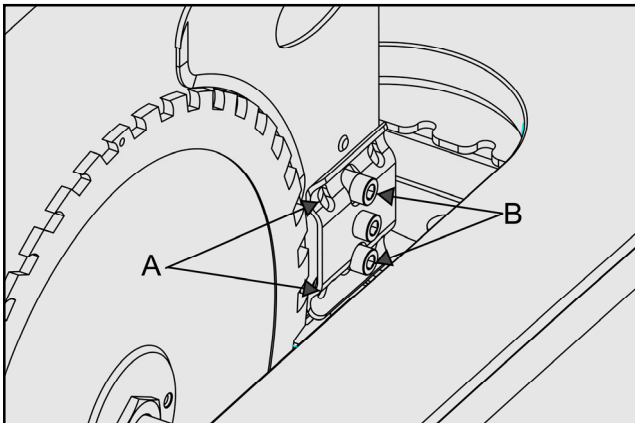

Fig. 26
during the cut, increasing the risk of kickback. Place a straightedge against the blade and the splitter or riving knife and check for parallelism. If an adjustment is needed, the mounting position can be adjusted into alignment with the blade using the adjustment set screws (A) Refer to **Fig. 26**.
3. Loosen the upper and lower cap screws (B), then adjust the 4 set screws in or out until the alignment is perfectly parallel.